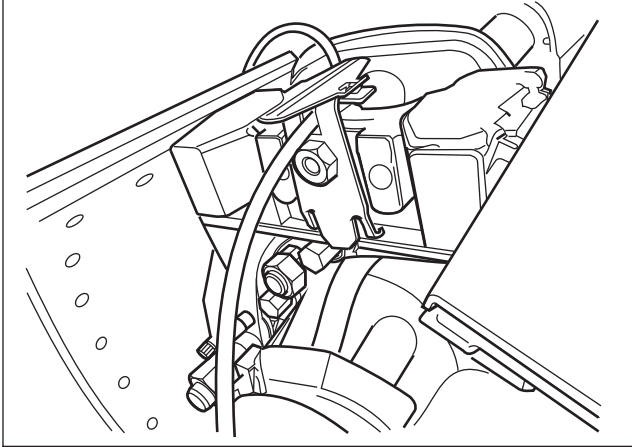

Fig. 2.15
8. Untighten the brackets. Fig. 2.15